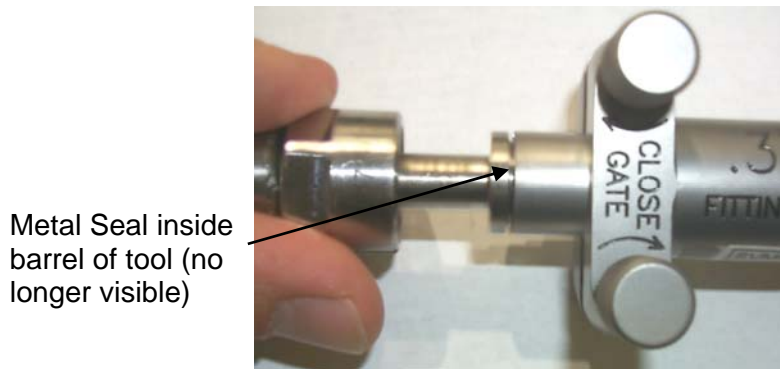

Figure 15.- Placement of Gamah Seal Removal Tool onto Gamah Fitting.
- 5.5 Slide Gamah Seal Removal Tool onto Gamah Fitting. Verify Metal Seal is inside tool barrel and seal is no longer visible. Refer to Figure 15.